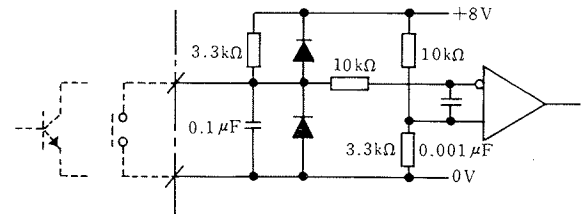

Fig. 10 Input Circuit 3
To avoid this, short-circuit the terminals (32) and (15). This kills the integral operation of PI operation, resulting in controller loop gain reduction and drift decrease. In this case, by five or six percent of the friction torque, motor stops positively. Fig. 10 applies to input circuit.
Fig. 10 applies to input circuit.